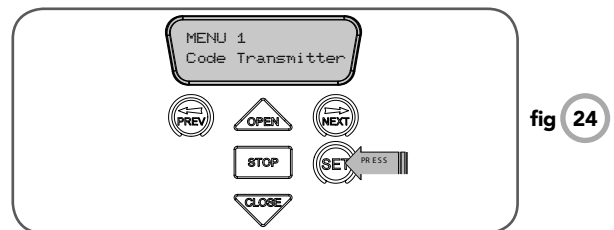

fig 24
1. Press NEXT to navigate to Menu 1 (**Fig. 24**).